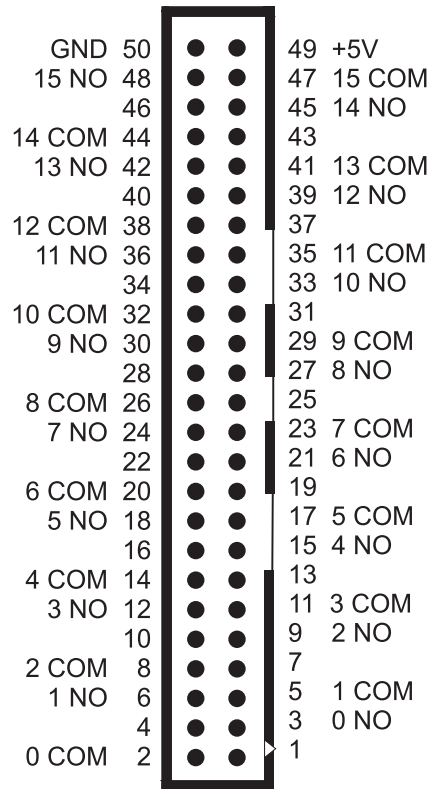

Figure 5-2. CYREL 16M Connector
**Note that the form A relays used on the 16M version have NO and COM connections only (Figure 5-2).**